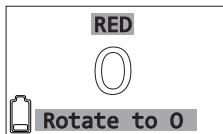

Figure 3.3-2 Boresight Screen
- Step 3.)** Push the Left or Right Button until “Enable” is highlighted, then push the Center Button to activate the visible red laser. The Boresight screen displays (see Figure 3.3-2).